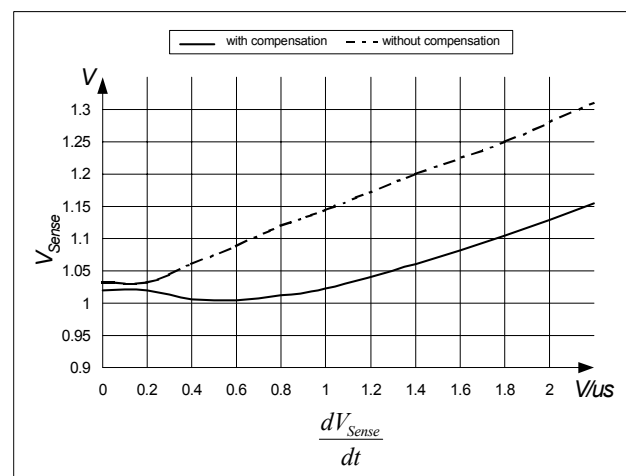

Figure 16 Overcurrent Shutdown
E.g.  $I_{peak} = 0.5A$  with  $R_{Sense} = 2$ . Without propagation delay compensation the current sense threshold is set to a static voltage level  $V_{csth} = 1V$ . A current ramp of  $dI/dt = 0.4A/\mu s$ , that means  $dV_{Sense}/dt = 0.8V/\mu s$ , and a propagation delay time of i.e.  $t_{Propagation Delay} = 180ns$  leads then to a  $I_{peak}$  overshoot of 12%. By means of propagation delay compensation the overshoot is only about 2% (see Figure 16).